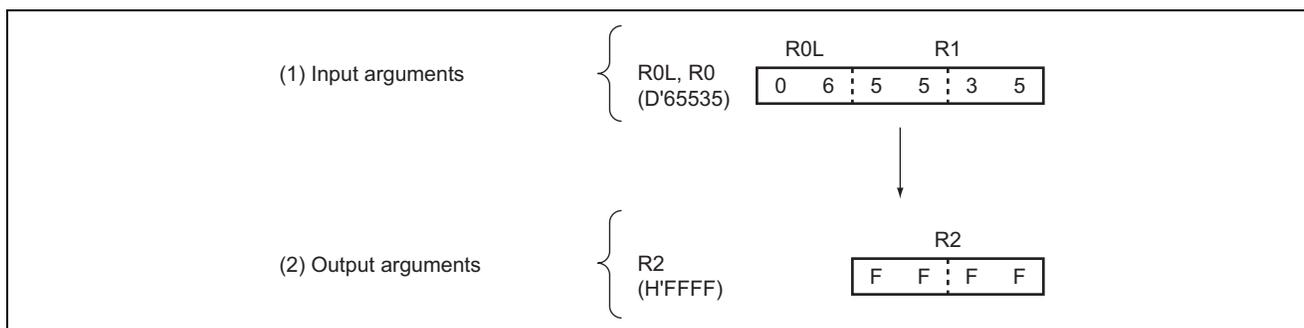

Figure 2 Example of Software BCD Execution
2. Figure 2 illustrates the execution of the software BCD. When the input argument is set as shown in (1), the 2-byte hexadecimal number is placed in R2 as shown in (2).